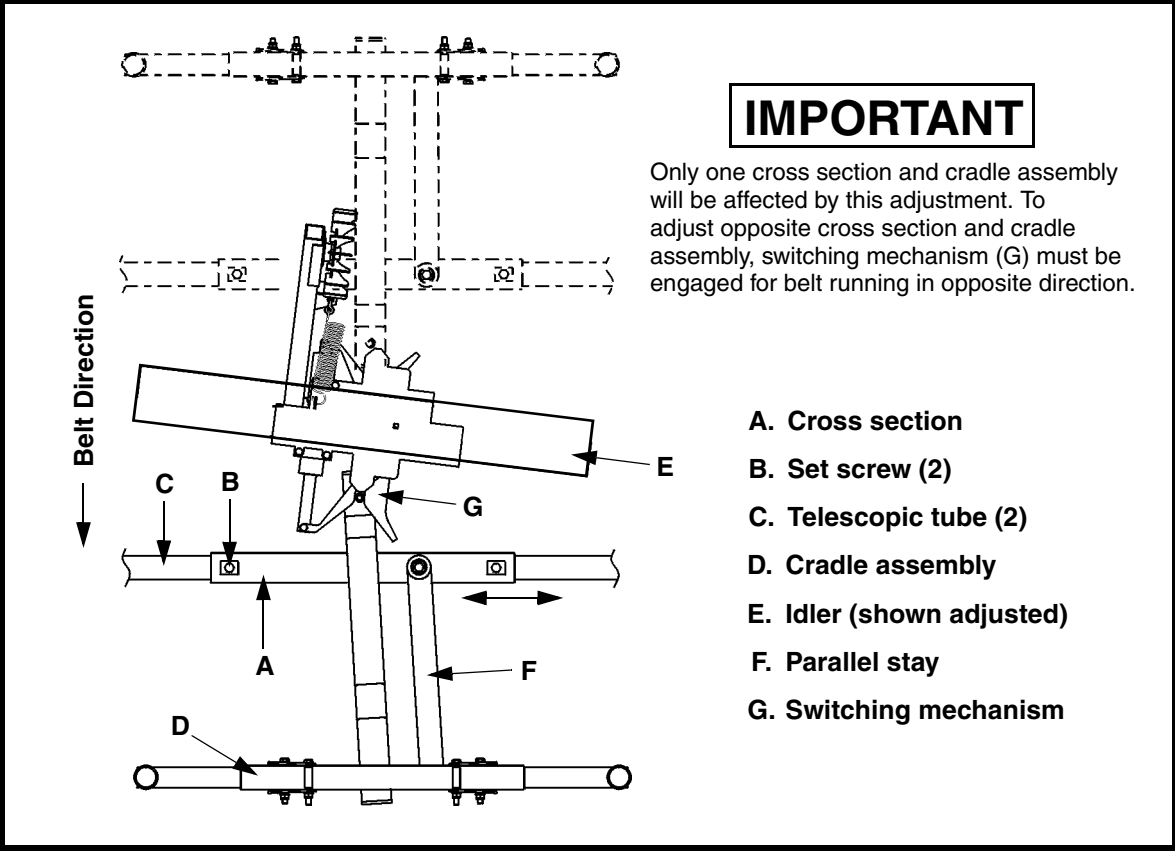

Figure 18. Adjusting Martin® Tracker™ Reversing
7. See Figure 18. If necessary, adjust cross section (A) to fine tune belt tracking:
- a. Loosen set screws (B) securing cross section on telescopic tubes (C).
- b. Slide cross section on telescopic tubes in the direction belt needs to move as necessary for proper adjustment of cradle assembly (D) and idler (E). (Parallel stay (F) will move cradle assembly.)